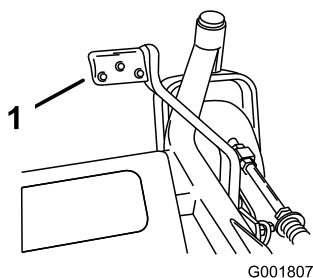

Figure 26
2. Press on the lift assist lever while pulling up on the height-of-cut lever (Figure 26).